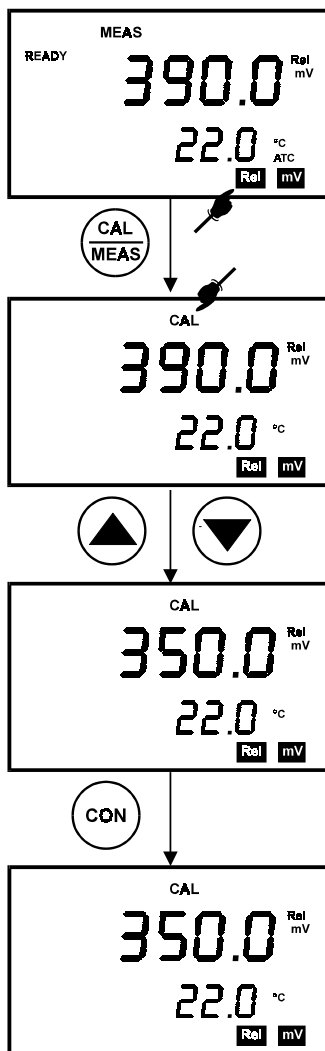

Figure 20: Relative mV calibration (For pH 100 only)
4. With the MI/▲ and MR/▼ keys, adjust the displayed absolute mV value to the base value required e.g. 350.0 mV (Figure 20).